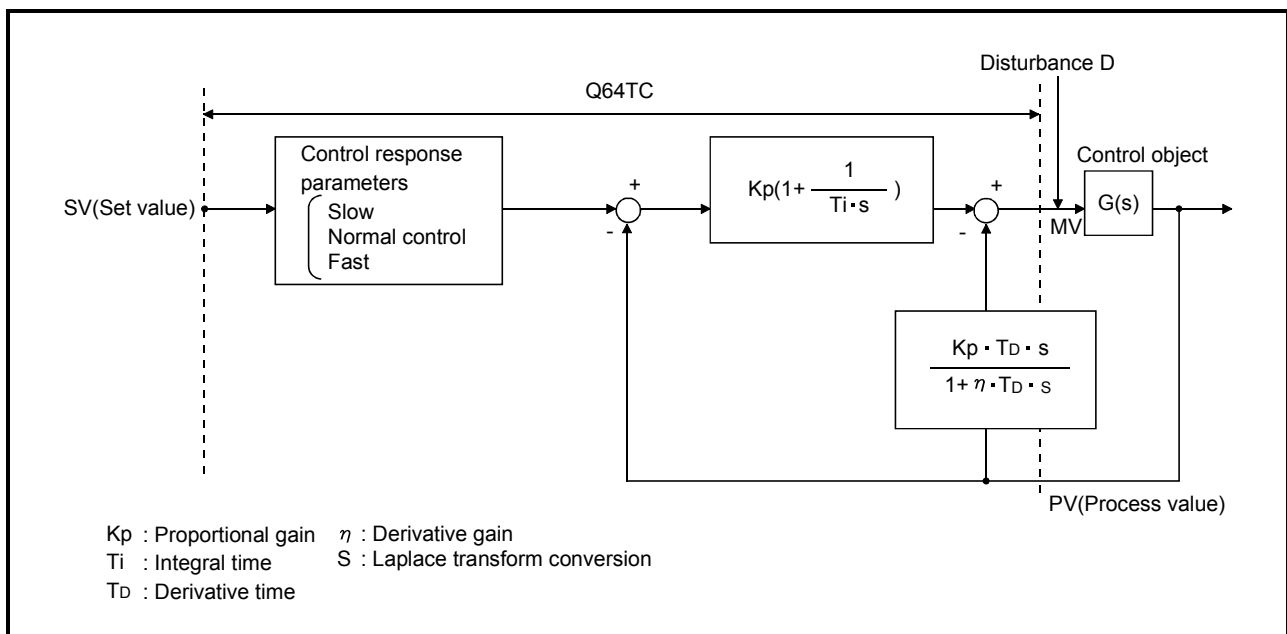

Fig. 1.6 Algorithm of PID control in process-value incomplete differentiation
(1) The algorithm of the PID control in process-value incomplete differentiation is shown in Figure 1.6.